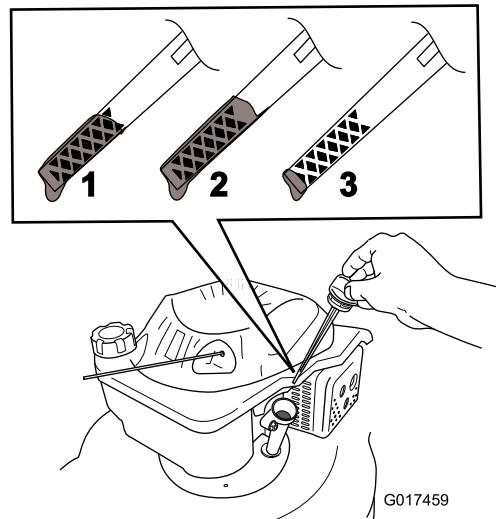

Figure 11
5. To determine the proper oil level on the dipstick, refer to Figure 11.
Note: Fill the engine crankcase with oil until the dipstick indicates that the engine oil level is correct as shown in Figure 11. If you overfill the engine with oil, remove the excess oil as directed in Changing the Engine Oil.